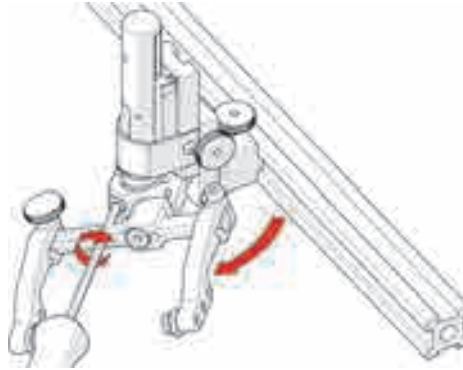

Figure 4-61 Rotate and tighten
3. Tighten the transverse adjustment screw (see Figure 4-61 on page 141).